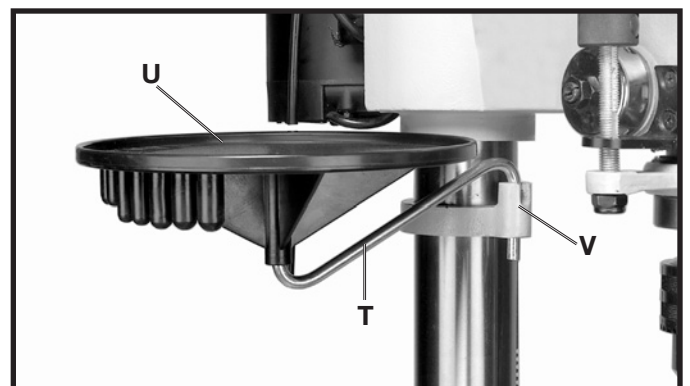

Fig. 18
19. Assemble mounting arm (T) and tray (U) to bracket (V) as shown in Fig. 18.